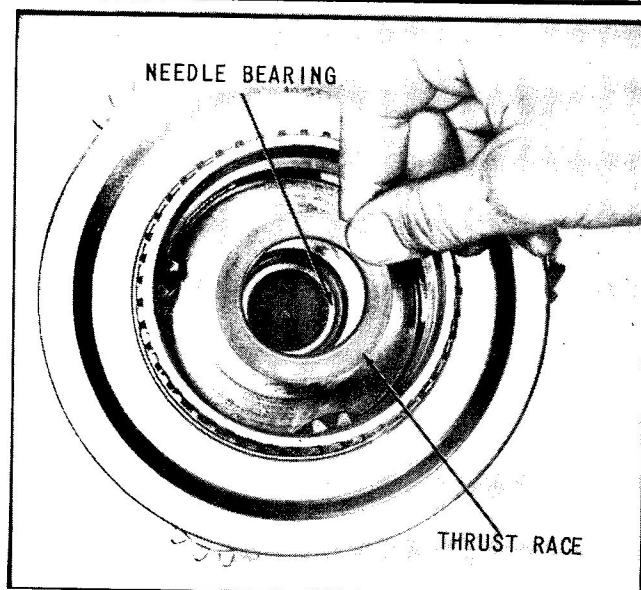

Fig. 46 Install Needle Thrust Race
10. Inspect needle bearing, located in bore of input shaft and carrier assembly and replace if necessary. Press rear face of needle bearing in 7/8 inch below rear face of carrier assembly. Install needle thrust bearing race, with flange facing forward, into bore and against face of input shaft and carrier assembly, (Fig. 46).